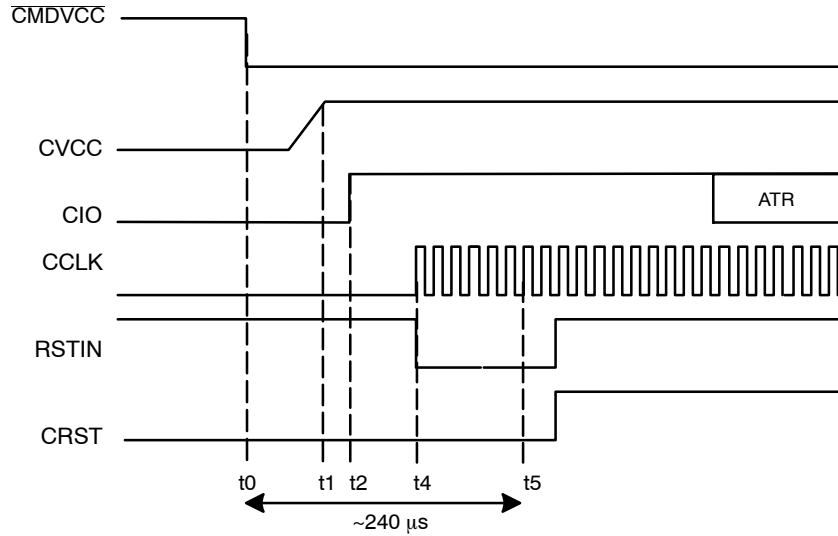

Figure 4. Activation Sequence – RSTIN Mode (RSTIN Starting High)
The clock can also be applied to the card using a **RSTIN mode** allowing controlling the clock starting by setting RSTIN Low (Figure 4). Before running the activation sequence, that is before setting Low \overline{CMDVCC} RSTIN is set High. The following sequence is applied:
- Between t2 (Figure 4) and t5 = 240 μs, RSTIN is reset to LOW and CCLK will start precisely at this moment allowing a precise count of clock cycles before toggling CRST Low to High for ATR (Answer To Reset) request.